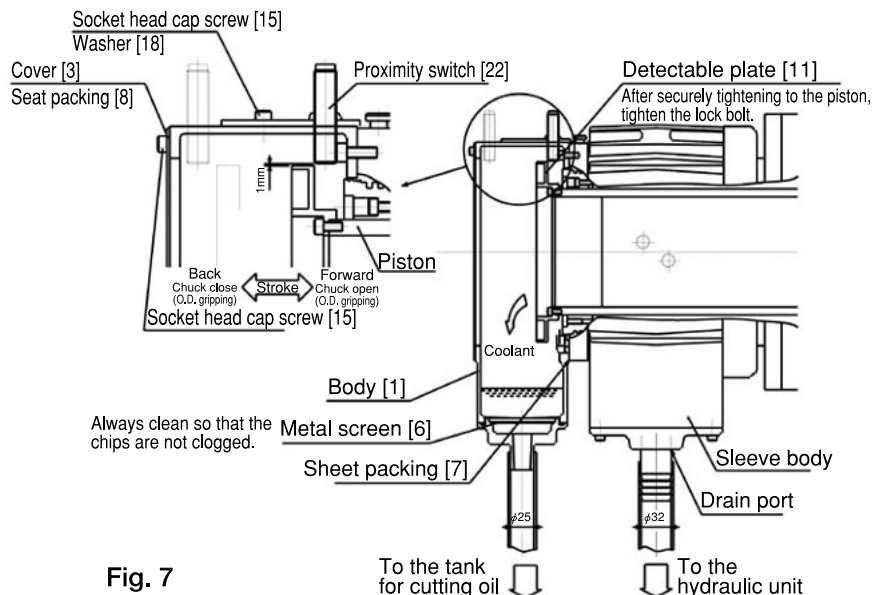

Fig. 7
- To easily collect the coolant flowing into the coolant collector, provide appropriate slope to the piping, so that the coolant does not stagnate inside the hose. To check the flow, use a transparent vinyl hose. (Inside diameter ϕ 25) (Fig. 7)
Read following instruction when you adjust the proximity switch. (Fig.7)
- If the coolant overflows from the coolant collector, the coolant is flows to the sleeve body side. Always clean the punching metal so that the coolant does not stagnate inside the coolant collector. Be sure the chips are not clogged. (Fig. 7)